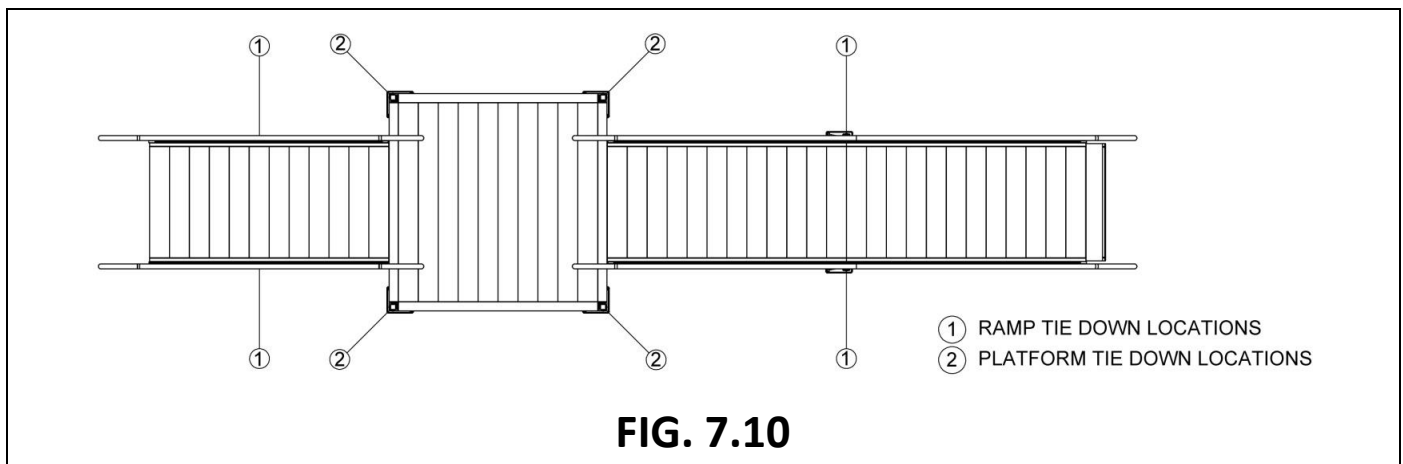

FIG. 7.10
7.7.1. The installer, based on field conditions, will determine the exact location of the tie downs. Generally, they should be positioned opposite one another as shown (FIG. 7.10).
7.7.11. If used on a single ramp, install tie downs approx. in the center using eye bolts (FIG. 7.10).